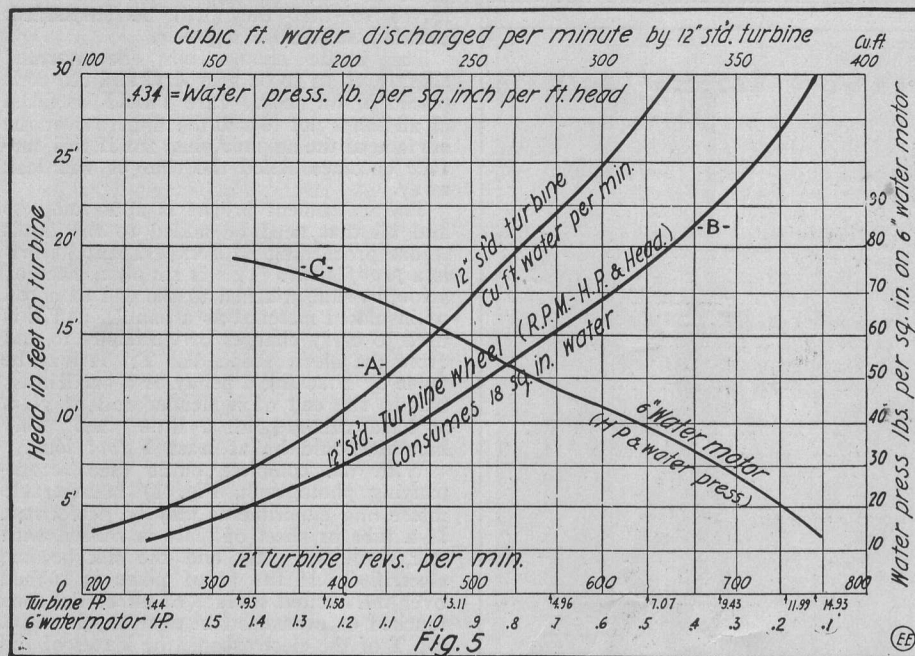

Fig. 5. Graphic Curves Giving the Cubic Feet of Water, Speed, Etc., of a 12" Standard Hydraulic Multiple-Vane Turbine and a Common 6" Water Motor.
For our better guidance it is perhaps best that we know in a general way about how much water is required to supply a certain amount of horse-power. Fig. 5 will help us to gain this information. Note
Now referring to curve Fig. 5—C, the characteristics of a 6 inch water motor (Hercules and other types), such as used for grinding, driving small dynamos, etc., are perceived. These indicate that with a fairly high pressure the 6" water motor, although of slight initial cost, is capable of producing considerable power. At a pressure of about 78 lbs. (at left of chart) the H.P. abscissa lines intersect curve C, at a value of 1.45 H.P. The cu. ft. of water consumed per minute (measure for one-fourth minute and multiply quantity by four) by any turbine or motor, is readily ascertained by discharging the efflux into a tank of known dimensions. Sometimes it is weighed and the cu. ft. then calculated, allowing 62½ lbs. per cubic foot.
5. Fine Scriber.—This is made of a brass rod and a needle. Drill the brass rod and taper the end with a file. Insert the needle and solder. (Fig. 5.)